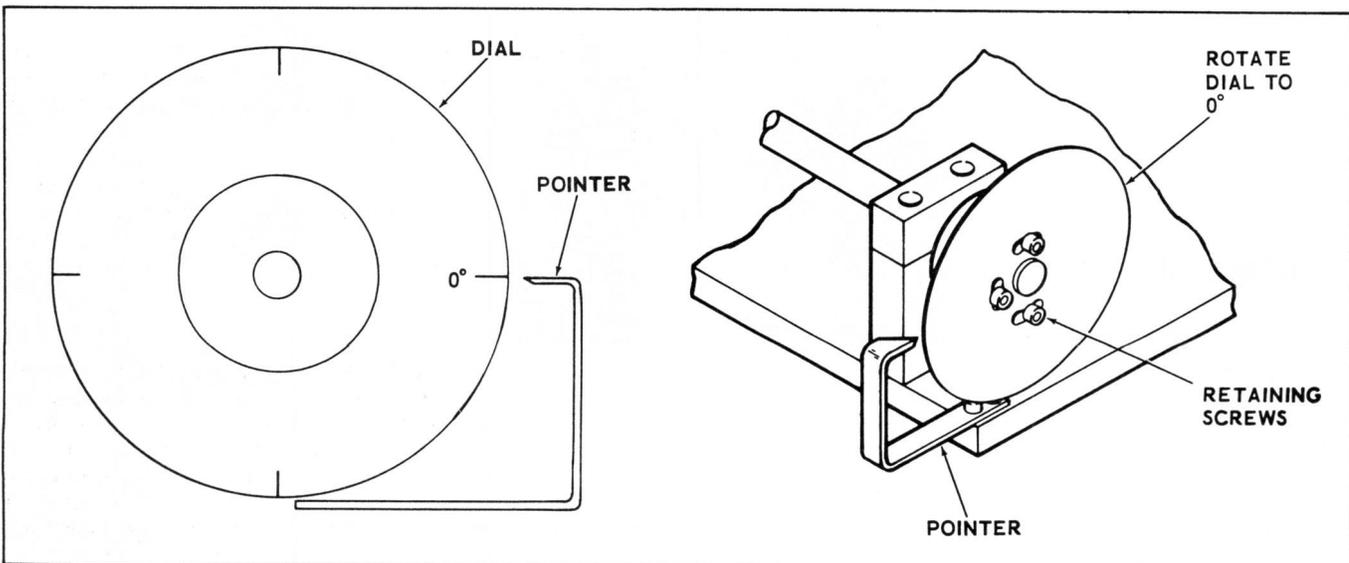

Figure 3-78. Zeroing Sequence Switch Assembly
- (2) Check the dial of the sequence switch assembly. The 0 degree mark should be opposite the stationary pointer on the assembly (Figure 3-78). If 0 degree mark is not in line with pointer break drive chain and rotate dial close to 0° mark, then loosen three screws at back of dial and rotate dial until 0 degree mark is aligned with pointer. Tighten the three screws at back of dial.